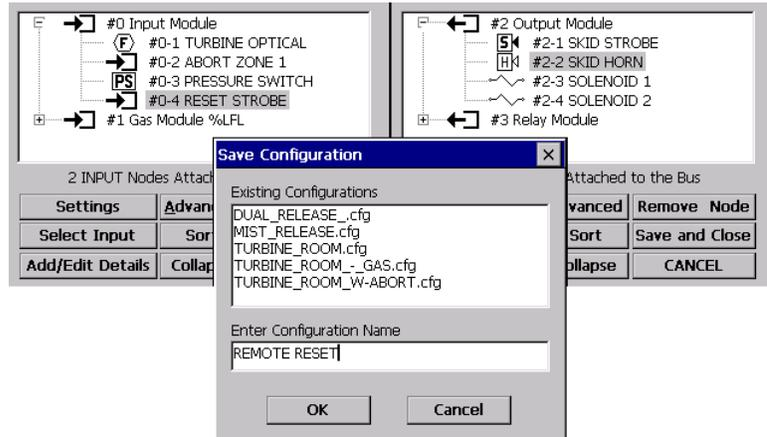

FIGURE 18.3 Creating a configuration and naming it remote reset.
□ Assign an appropriate configuration name similar to figure 18.3 and save it.